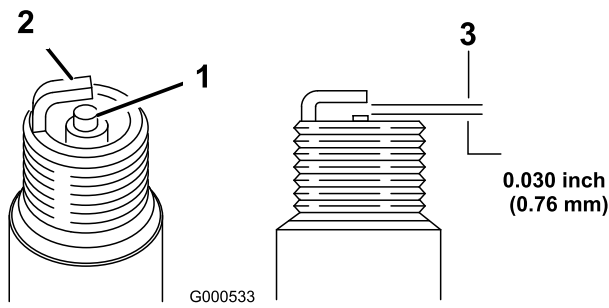

Figure 24
5. Set the gap on the plug to 0.76 mm (0.030 inch) (Figure 24).